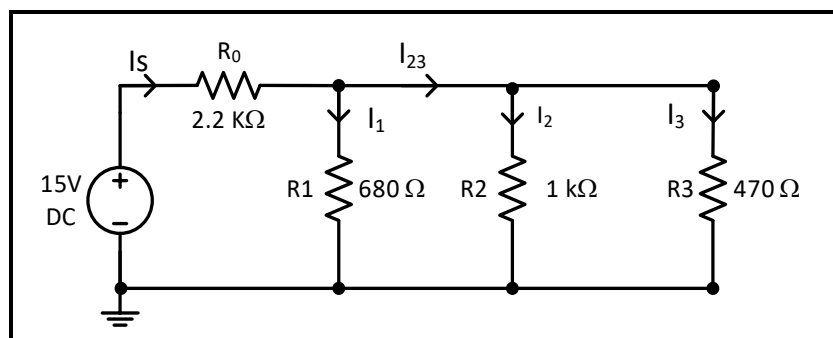

Figure 3.8
1. Simulate the circuit of Figure 3.8 using PSPICE to find the value of current in each resistor in the circuit.
- Connect the circuit shown in Figure 3.8, set V_{in} to 15 V.